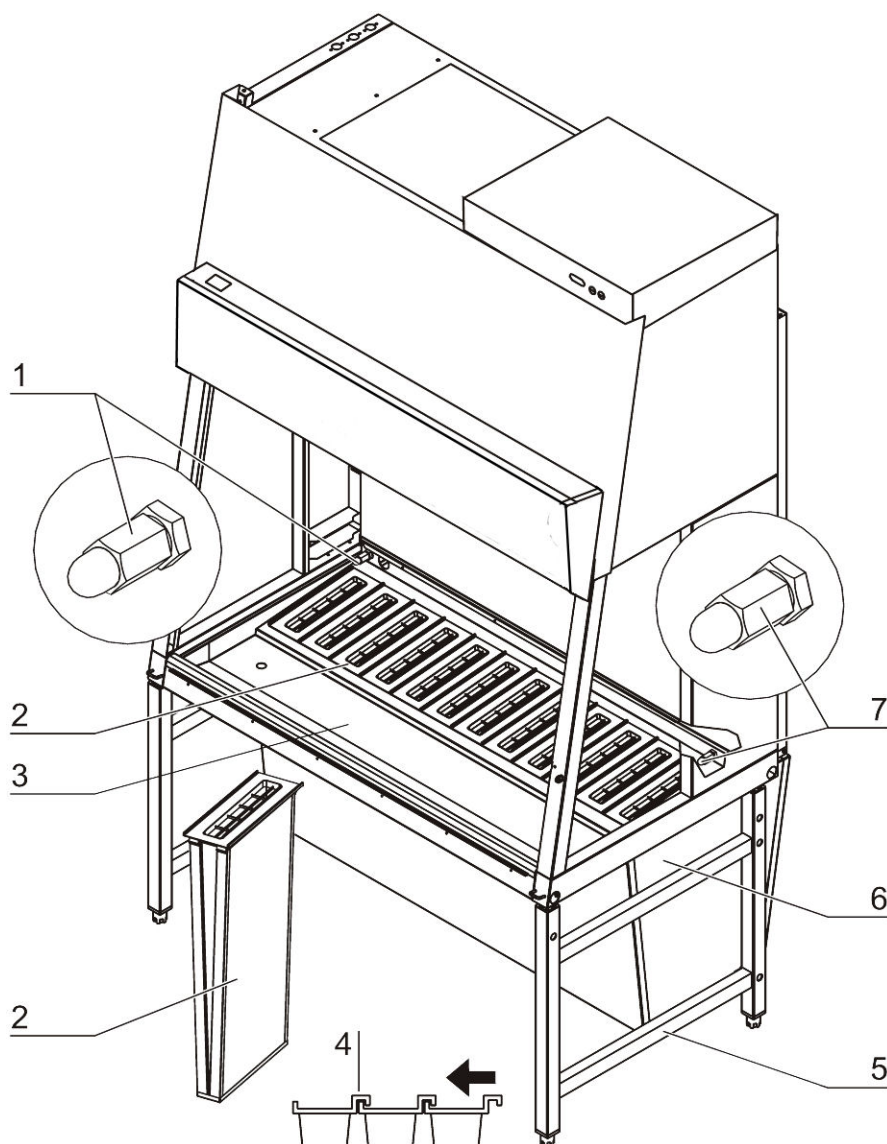

Fig. 3b
- **Fig. 3b:** Stand [5] with integral prefilter housing [6].